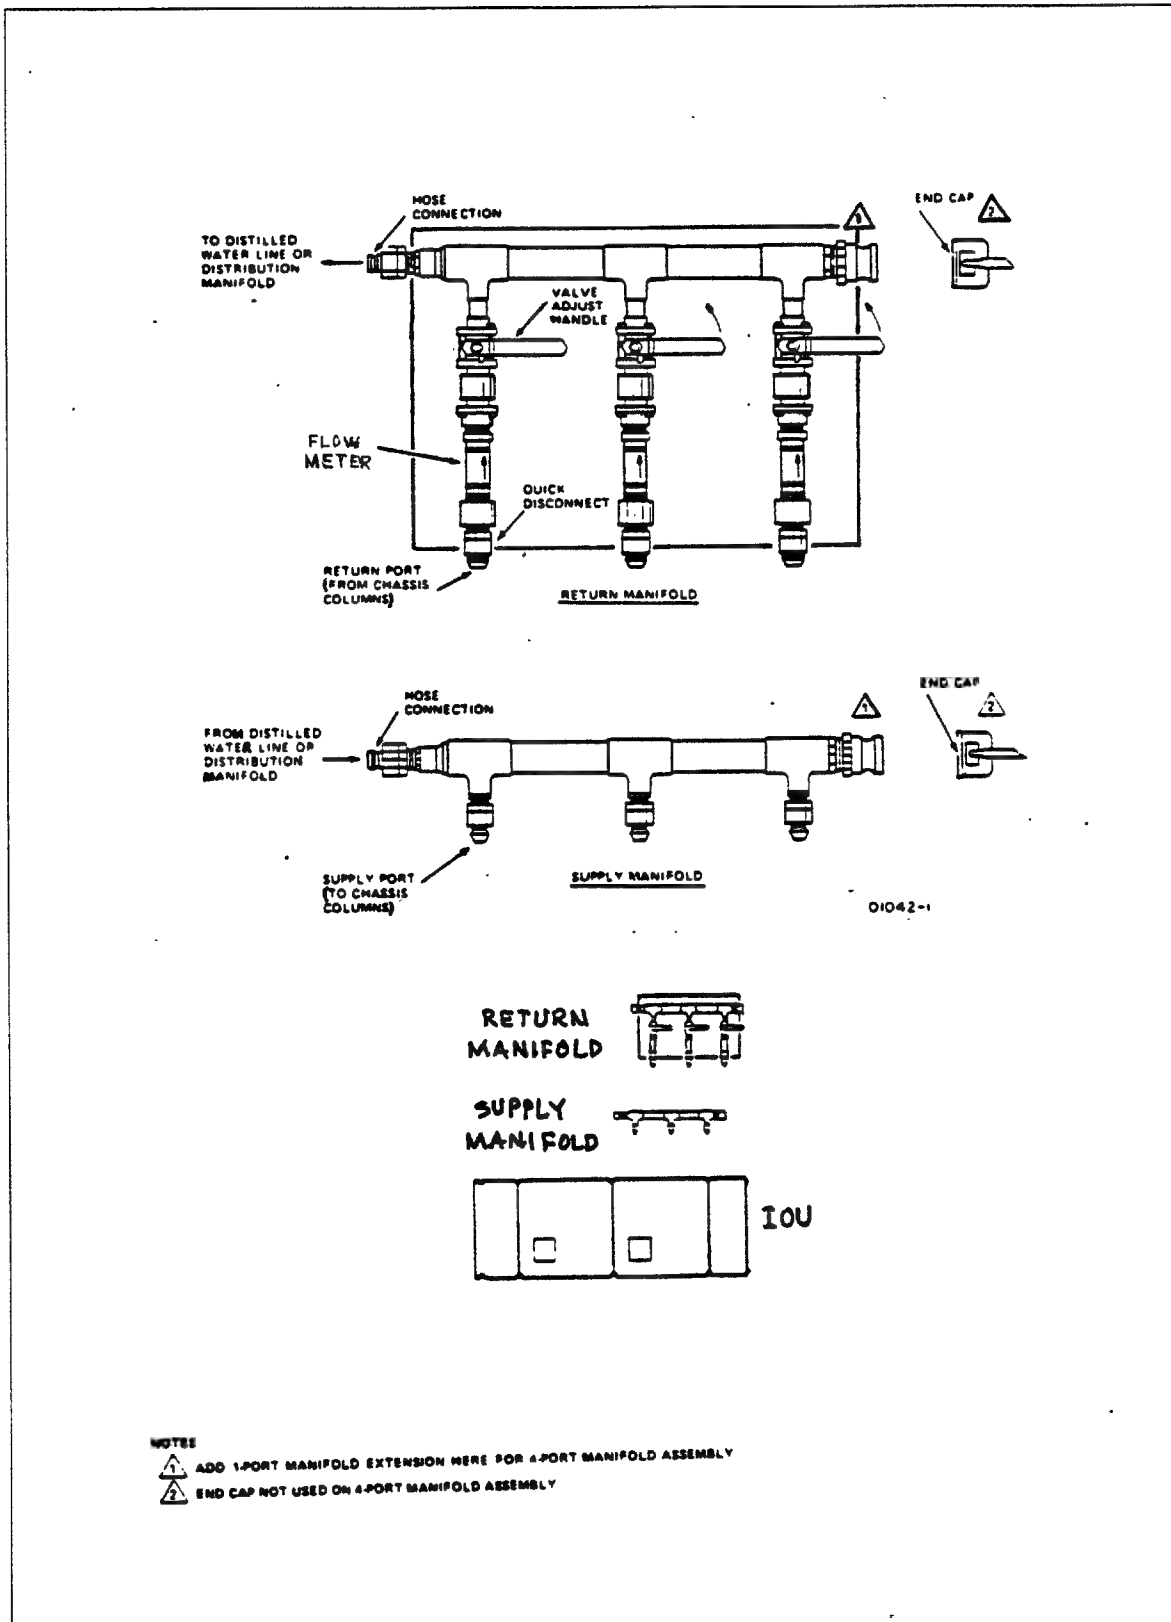

Figure 2-57. 3-Port Water Manifold Placement for IOU
- 1. Place 5-port distribution manifolds and 3-port supply and return manifold assembly under raised floor in locations shown in figure 2-57 as follows: